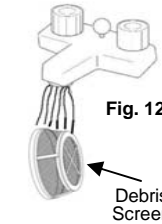

Fig. 12
7. "TapClean" the Debris Screen or rinse under a faucet until clean. (Fig. 12) Remember that the Debris Screen must be completely dry before reinstalling in the vacuum.